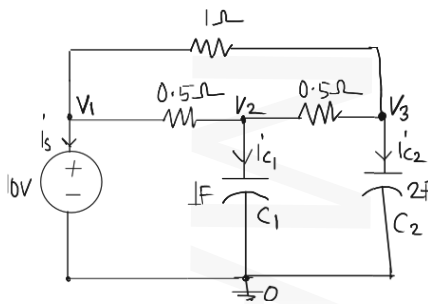

Figure 3: Figure for Question 15.
- 13 a) For the ODE  $\frac{dx}{dt} = -10x$ , apply Forward Euler (FE) method with a step size of 0.25 and initial value of  $x_0 = 1$ . Proceed for 5 steps and comment on the stability of the method. Is FE method suitable for circuit simulation? Give reasons. 8
- b) Define Local Error (LE) and Local Truncation Error (LTE) for a numerical method. 6
- 15 For the circuit shown in Fig. 3, write the MNA equations. Apply Backward Euler method to discretize and obtain the resulting numerical equations. Express the equations in matrix format. Assume  $h$  is the step size. (No need to solve the equations). (Hint: the unknowns are  $V_1, (n+1), V_2, (n+1), V_3, (n+1)$  and  $i_s, (n+1)$ ). 14